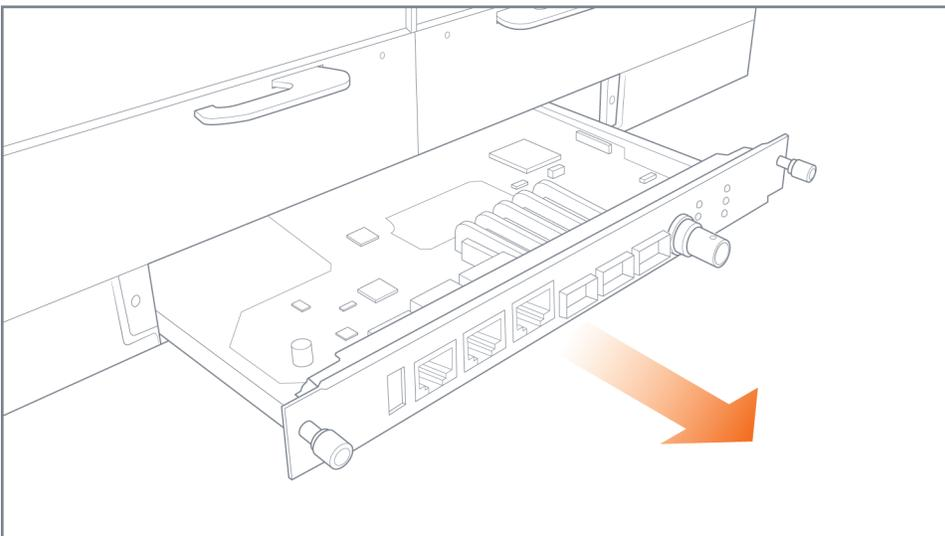

Figure 16: Extension Board Removal
4. Pull out the extension board as shown in Figure 16: Extension Board Removal.